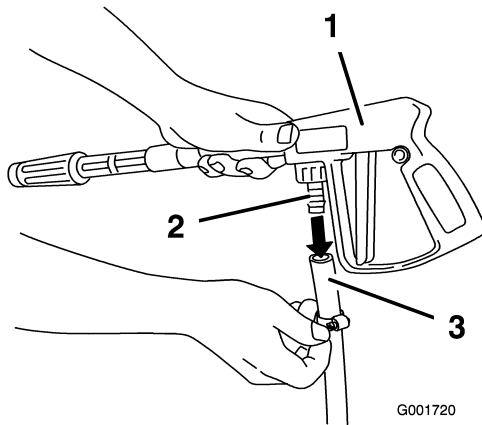

Figure 18
2. Connect the free end of the long hose to the fitting on the spray gun (Figure 18).